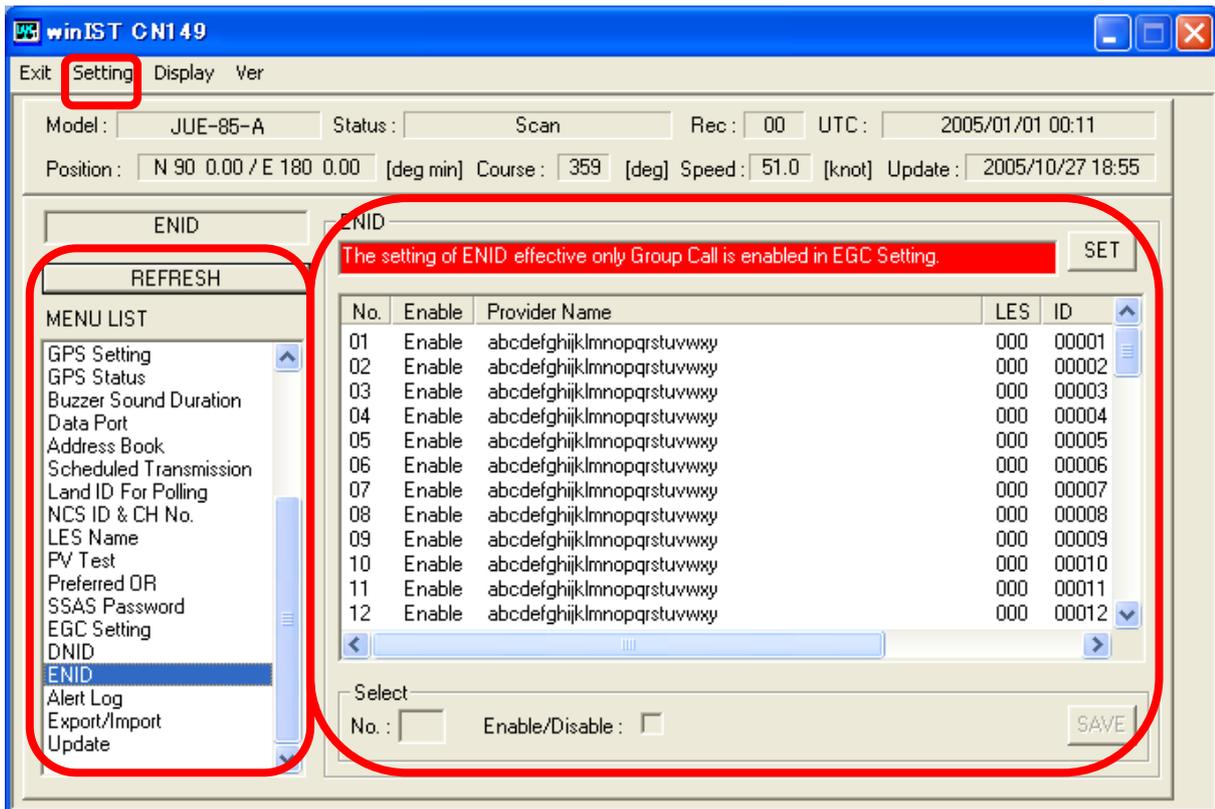

Fig. 4-29-1a ENID screen 1
2. Operation except [Exit], [Display], and/or [Ver] is not possible while winIST is communicating with INMARSAT terminal(the function in the frame of **Fig. 4-29-1a ENID screen 1** cannot be operated.)
4. Operation except [Exit], [Display], and/or [Ver] is not possible while winIST is communicating with INMARSAT terminal(the function of **Fig. 4-29-1a ENID screen 1** cannot be operated.)